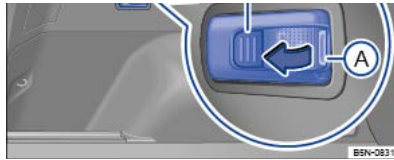

Fig. 191 On the left of the luggage compartment: removable light.
- Take hold of the removable light in the area \Rightarrow Fig. 191 \odot .
- Press button \Rightarrow Fig. 191 $\textcircled{1}$ to switch on. The light is lit with full brightness.
- Press the button \Rightarrow Fig. 191 $\textcircled{1}$ again to set the light to 50% power.
- Press the button \Rightarrow Fig. 191 $\textcircled{1}$ again to switch the removable light off.
Switch off the removable light and push it in the opposite direction to the arrow \Rightarrow Fig. 191 into the holder.
- Lever off the battery cover with a thin object under area \Rightarrow Fig. 191 \odot .